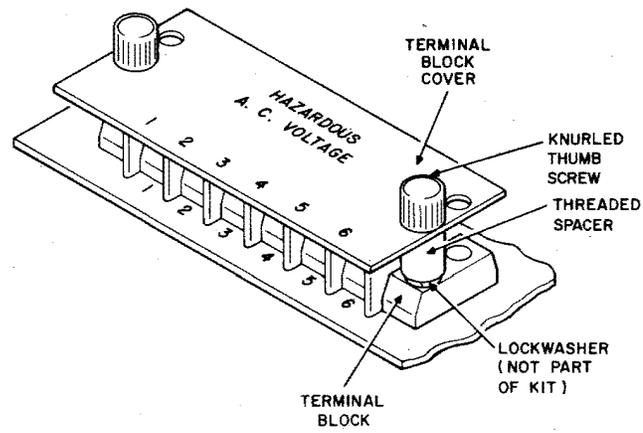

Fig. 9—KS-14741 L150 and L151 Terminal Insulator Kits (L151 Shown)
3.08 Terminal Strip: (All Lists) To replace the terminal block, remove the knurled thumb screws which secure the terminal block cover and then remove cover. Remove the terminal screws to which the leads are connected using the 3-inch C screwdriver. Tag and remove the leads. Remove the terminal block mounting screws and/or the threaded spacers (Fig. 9) and remove the terminal block. Mount the new terminal block and tighten the mounting screws and/or the threaded spacers, making sure the lockwashers are under the heads of the screws or threaded spacers. Remove the inner terminal screws from the new terminal block. Place the tips of the leads on the proper terminals of the new block and securely tighten the terminal screws. Replace the terminal block cover, securing it with the knurled thumb screws. Make sure the numbers on the terminal block cover correspond to the terminals numbers which are stamped on the plate on which the terminal block is mounted.
blocks, respectively. (See Fig. 9.) Each kit includes complete installation instructions. During installation, caution should be observed that the terminal numbers on the terminal block cover correspond to the terminal numbers which are stamped on the plate on which the terminal block is mounted.